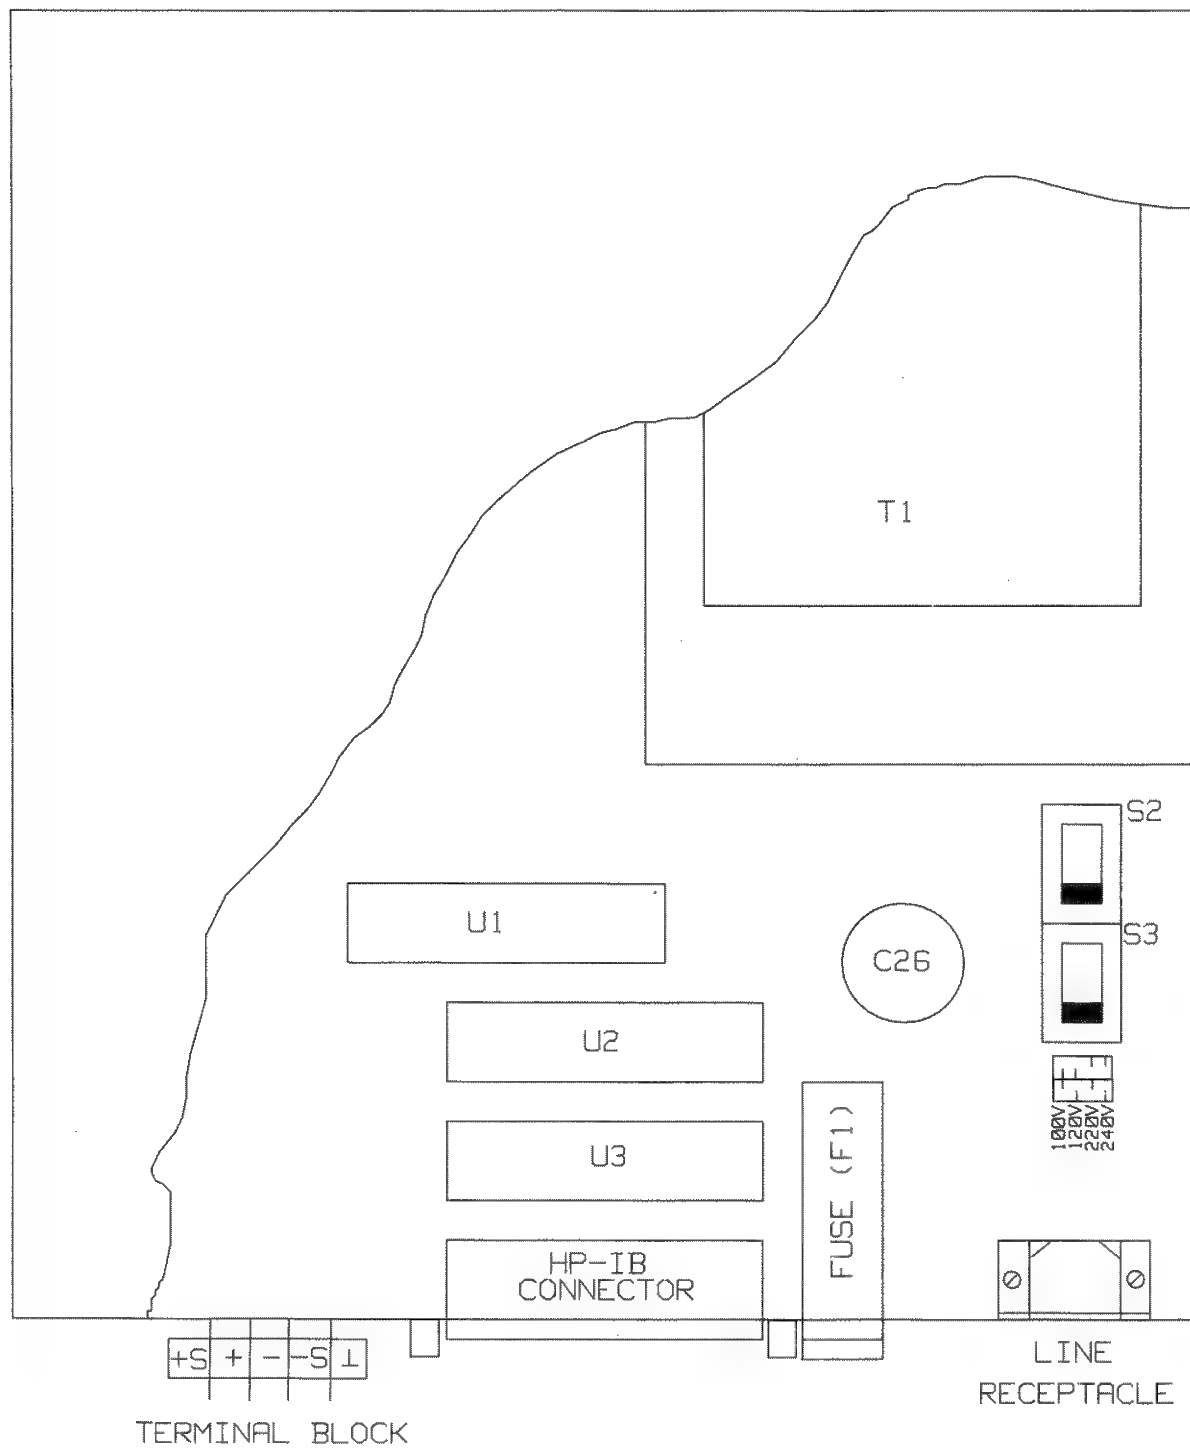

Figure 2-3. Line Voltage Conversion Components
2. Locate the line voltage select switches S2 and S3 (See Figure 2-3).
3. Note that each switch can have two possible positions. Representation of these positions are silk screened on the PC board next to the switches as shown in Figure 2-3.
4. To change the line voltage, consult the silk screen drawing and adjust the switches accordingly. For example to change the voltage from 120 V (as shown in Figure 2-3) to 240 V, change the position of switch S2 only.